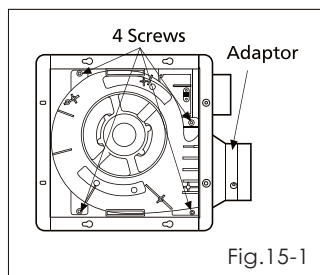

Fig.15-1
1. Loosen 4 screws (but do not remove them from blower). (Fig.15-1)